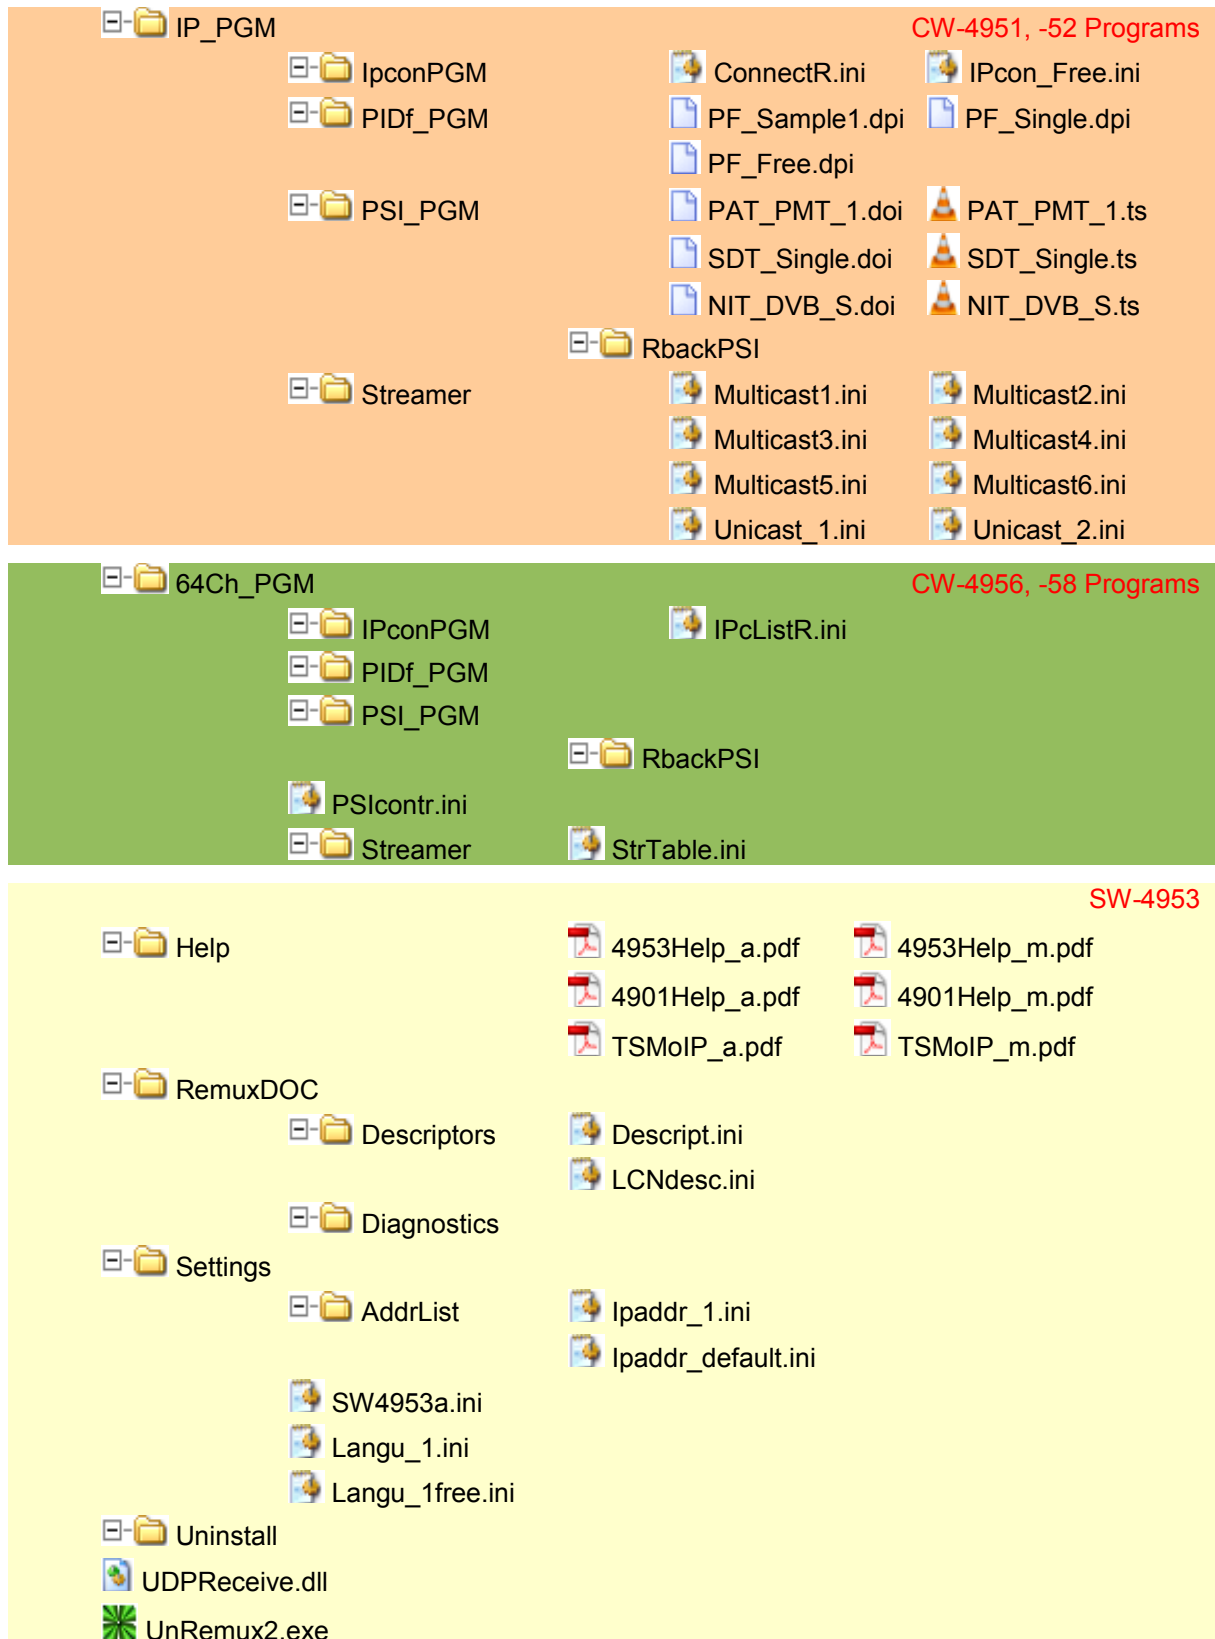

Figure 16.1
5. The report of the input transport streams is saved in the Source.srp file. The file comprises a 4096-byte header and then the data of the transport streams in flexible ( $n \times 1024$ ) sized units. The structure of the transport stream report (OutTS\_1.srp) edited by the user is the same, but comprises only the data of one transport stream following the 4096-byte header. The structure of the Table Report made by the software is the same, but some parts of the data arrangement are unlike. The structure of these three files is complicated, so it is not published, and it is not necessary for creating the user's individual software. The arrangement of the directories and data storages of the SW-4953 software is shown in Figure 16.1.